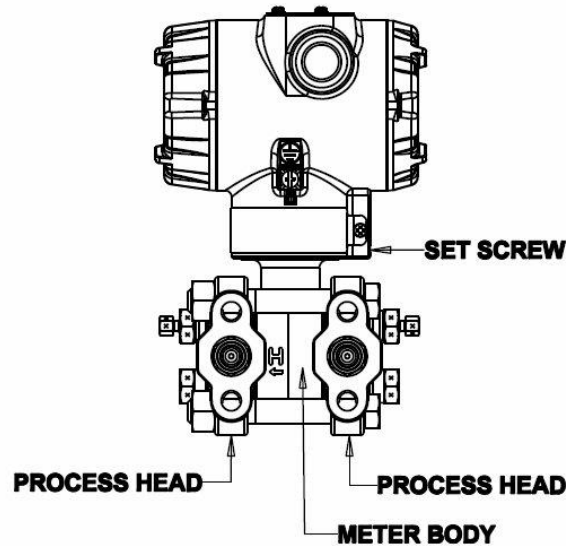

Figure 25 – Hardware Location to Remove the Meter Assembly
8. Refer to Figure 25 . Use a 2 mm hex wrench to completely loosen the set screw on the outside of the housing to permit rotating the meter body.